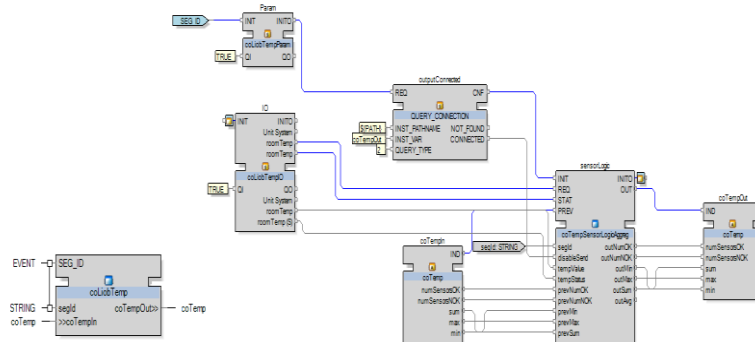

Figure 12: Aggregation sensor block
- An aggregation sensor core block allows chaining several sensors. Figure 12 shows how the sensor core block is to be used. The *IO* block imports the real sensor data.